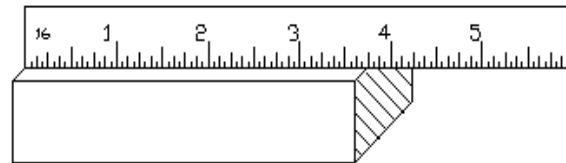

Fig. 1
- To get the full accuracy out of a rule, it is important to use it correctly. Never use the end of the rule to align with the edge of the work for a measurement (Figure 1). The end of a rule is often rounded off from misuse, and a true measurement will not be made.